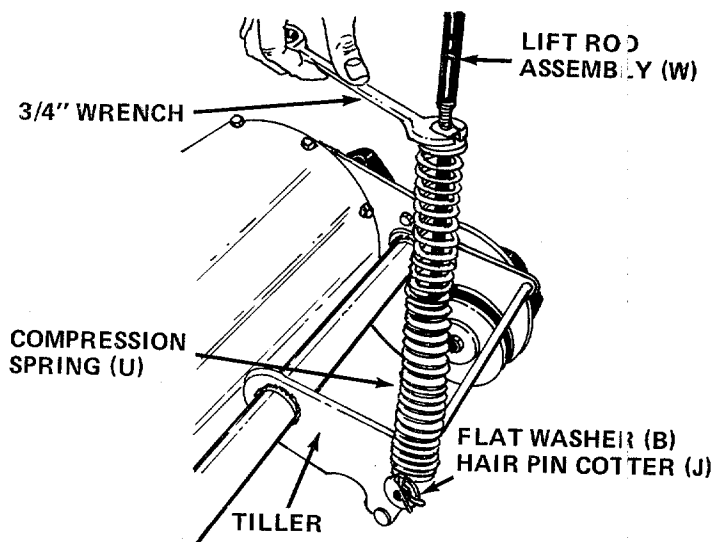

FIGURE 11
17. Place the large compression spring (U) over the slotted end of lift rod assembly (W).
18. Place slotted end of lift rod (with spring attached) over the rod on right hand side of tiller as shown in figure 11. Secure with flat washer (B) and hairpin cotter (J).
19. Using a 3/4" or adjustable wrench, tighten the hex nut which is on the lift rod assembly until the spring is compressed to 11" long. See figure 11.